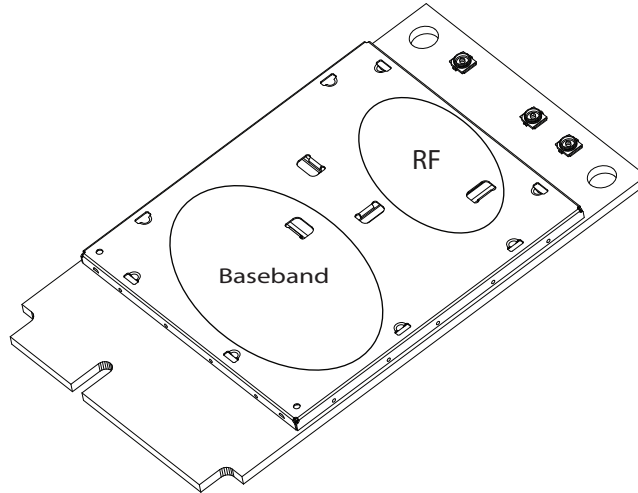

Figure 7-4: Shield locations (Top view)
Specific areas requiring heat dissipation are shown in Figure 7-4:
- Monitor temperature on the underside of the module. Attach thermocouples to the areas indicated in Figure 7-4 on page 55 (Baseband, RF).